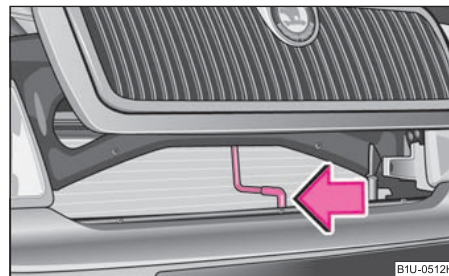

Fig. 149 Radiator grille: Locking lever
- Press the locking lever in direction of arrow ⇒ fig. 149 and lift up the bonnet.